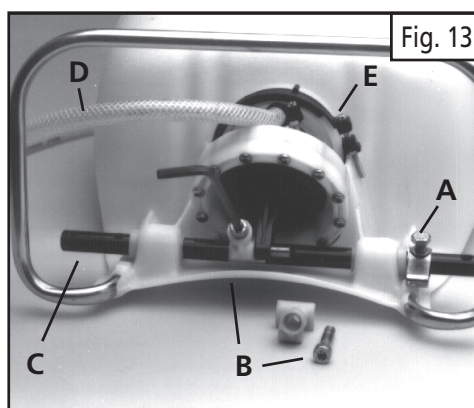

Fig. 13
- 1) Loosen the stop plate (A) and remove the two (2) allen head screws (B) that hold the connecting pieces to the pump rod. (See Figure 13)
- 2) Remove the pump rod (C) and the hose (D). Next, loosen the clamp at the base of the sprayer (E). (See Figure 13)